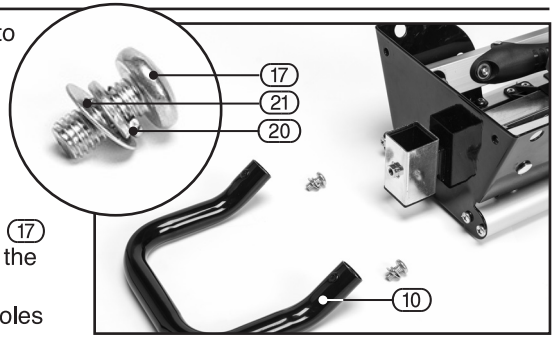

FIG.1
8.1 ASSEMBLE TRANSPORT HANDLE – FIGS.1 – 2
- Utilising 2 sets of fixings, thread the screws (17) with lock washers (20) and washers (21) in the same order as indicated inset in Fig.1.